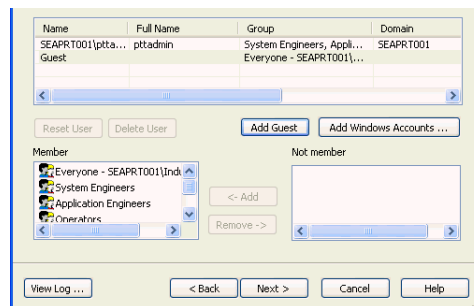

Figure 52. Guest Account
- The Guest account is now created, see Figure 52.